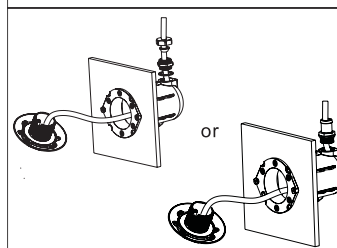

Figure 6
4. Wrap extra cables behind the light to make sure it could be taken to the pool surface for future maintenance .Then tighten the nut or line pipe joint (Figure 6).